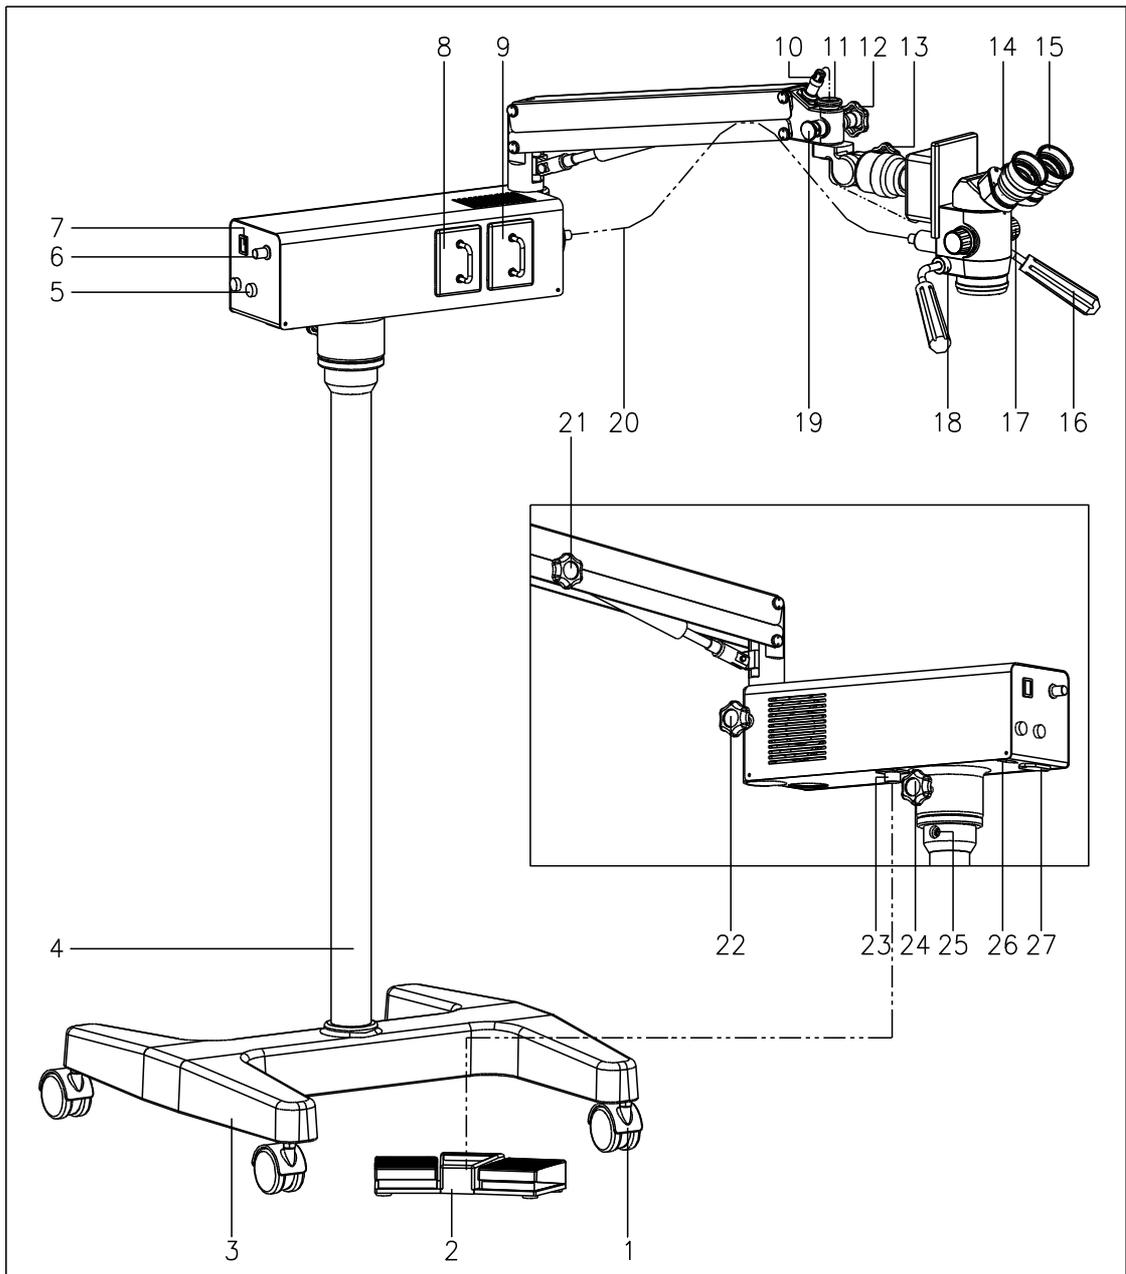
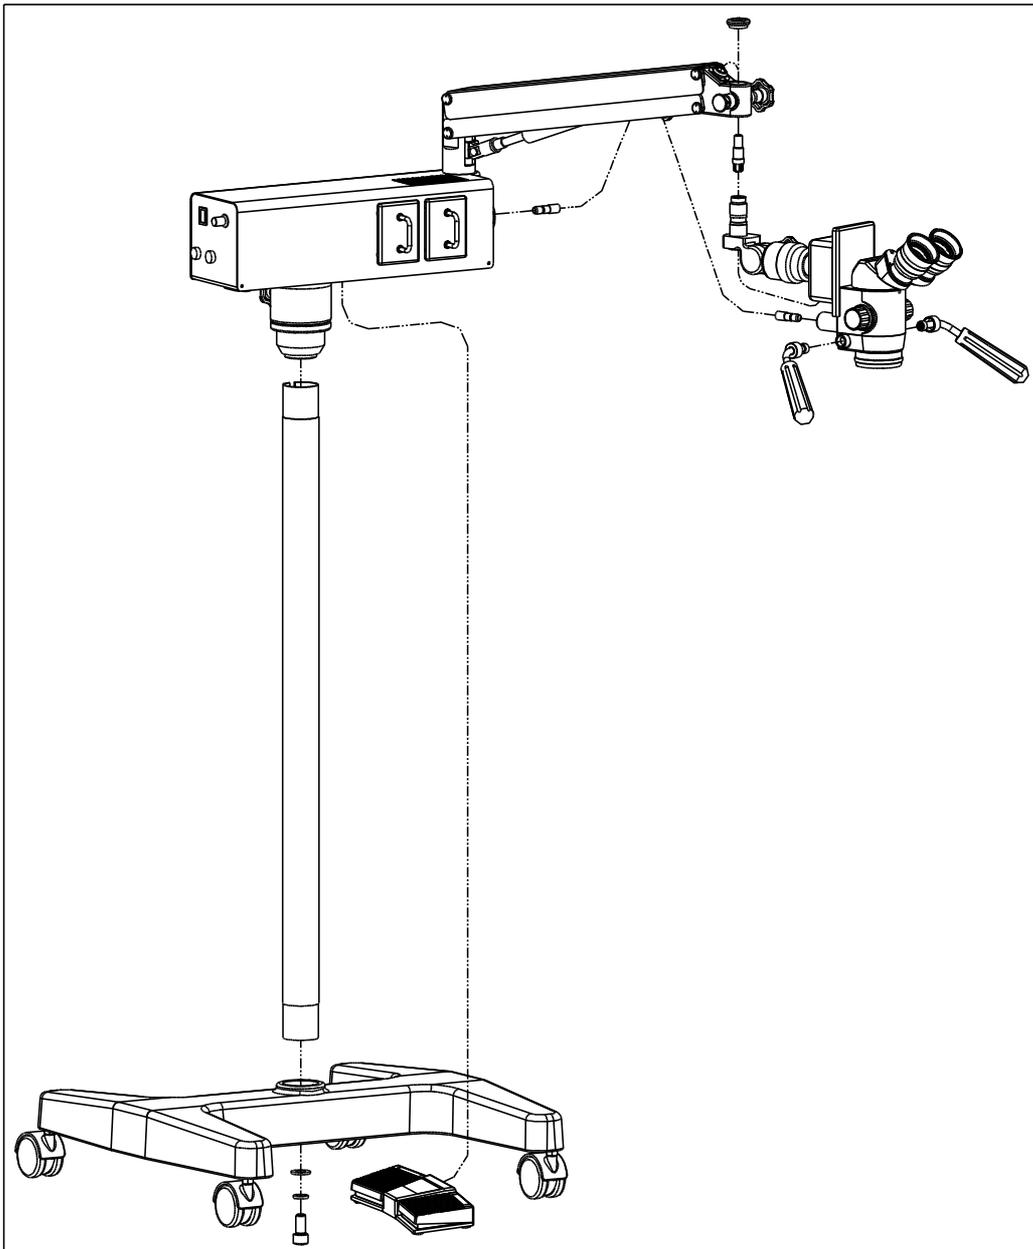

Fig. 1
Fig. 2
Take out the stand pillar [4], turn out the inner hexagonal bolt and gasket of its end, insert it into the hole of the floor stand [3], and then turn the stand pillar [4] to make the column pin on the base support clip in the groove on the end of stand pillar, assemble in order the unassembled gasket、spring gasket、inner hexagonal blot, and fasten it firmly with 10mm hexagonal wrench (Fig.2).
Take out the light source box while not loosen the tightening bolt of the star knob [21] in order to avoid the small arm rebounding and harm people, set the bottom of the light source box into the stand pillar [4] and insert the inner hexagonal tightening blot [25] into the groove of the end of stand pillar [4] and fasten it firmly with 6mm hexagonal wrench(Fig.2).
- (1) First check the tightening blot of star knob [12], make sure that the end of the bolt does not protrude out of the hole surface.
- (2) Remove the fixing nut [11]. Pull out the safety pin [19] with one hand, hold the connecting part of microscope with another hand. Insert the shaft into the hole of the arm from the bottom to top. Then release the safety pin [19], it will spring back to the groove on the shaft. Finally fasten the fixing nut [18] (Fig. 2).
- (3) Insert the 7-pin plug [10] into the 7-pin socket. Pay attention to align marks for alignment on both the plug and socket.
Insert the manipulating handle [16] into the holes on the two sides of the microscope holder respectively. The proper handle position should be down to an angle of 40° (as shown in Fig. 1). Then fasten the fixing block circle on the project plane of the two sides of the microscope and make the manipulating handle not to move axile direction (Fig. 2).
- (1) Remove the fiber optics protective cover.
- (2) Insert one end of the fiber optics [20] into the side hole of the light source box and insert another end into the hole behind the microscope (Fig. 2).
- (1) First connect the 5-pin plug on the foot control switch [2] with the 5-pin socket [23] under the power controlling box (Fig.1). Pay attention to align marks for alignment on both the plug and socket. Then connect power cable with mains outlet and switch on the power switch [7]. so that you start foot control.